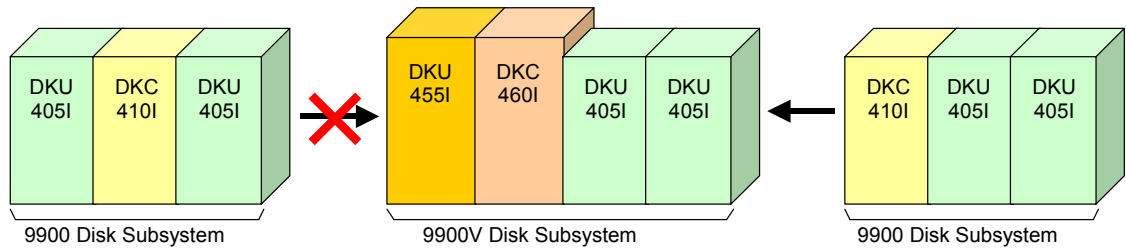

Figure 5.16 Same Location (R1, R2, L1, L2) Required for 9900 DKUs
- When connecting existing DKU405I unit(s) with a DKC460I, do not change the location of the DKU405I unit(s) (see Figure 5.16).